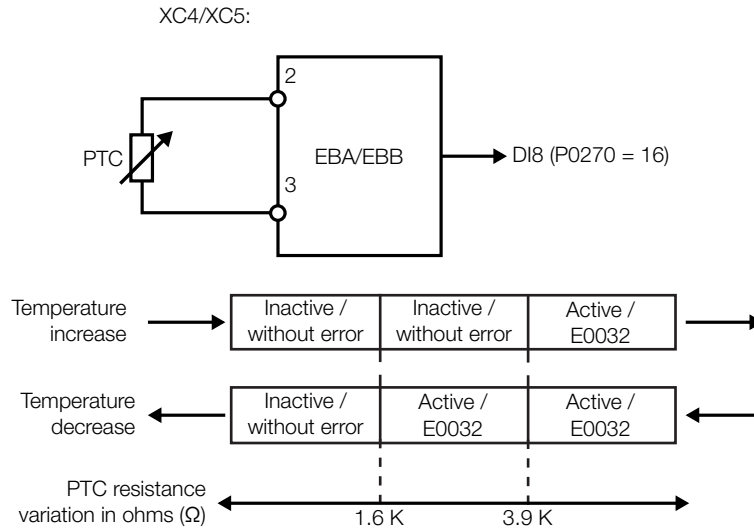
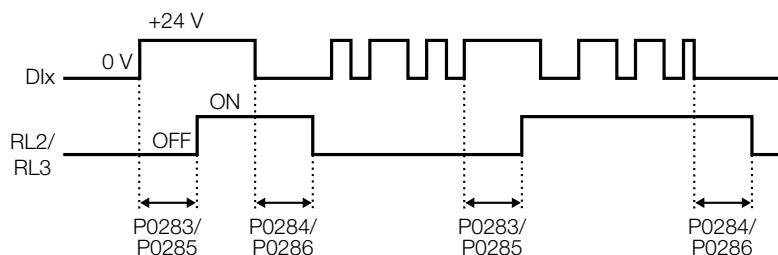

Figure 5.32: DI8 as a PTC input
Figure 5.34: RL2 and RL3 timer function operation
- Refer to Table 5.44 on page 5-56, the Figure 5.32 on page 5-55 and Figure 5.34 on page 5-55 for further details regarding the functions of the digital inputs.
- **'RL2 and RL3 Timer'**: this function acts as a timer to activate and deactivate the relays 2 and 3 (RL2 and RL3). When the timer function for the relay 2 or 3 is programmed at any DIx, and a transition from open to closed occurs, the programmed relay will be activated with the delay set in P0283 (RL2) or P0285 (RL3). When a transition from closed to open occurs, the programmed relay will be deactivated with the delay adjusted in P0284 (RL2) or P0286 (RL3). After the transition of the DIx, either for activating or deactivating the programmed relay, it is necessary that the DIx remains closed or open during at least the time set in P0283/P0285 and P0284/P0286. Otherwise, the timer will be reset. Refer to the Figure 5.34 on page 5-55. **Note:** In order to enable that function it is also necessary to program P0279 and/or P0280 = 29 (Timer).